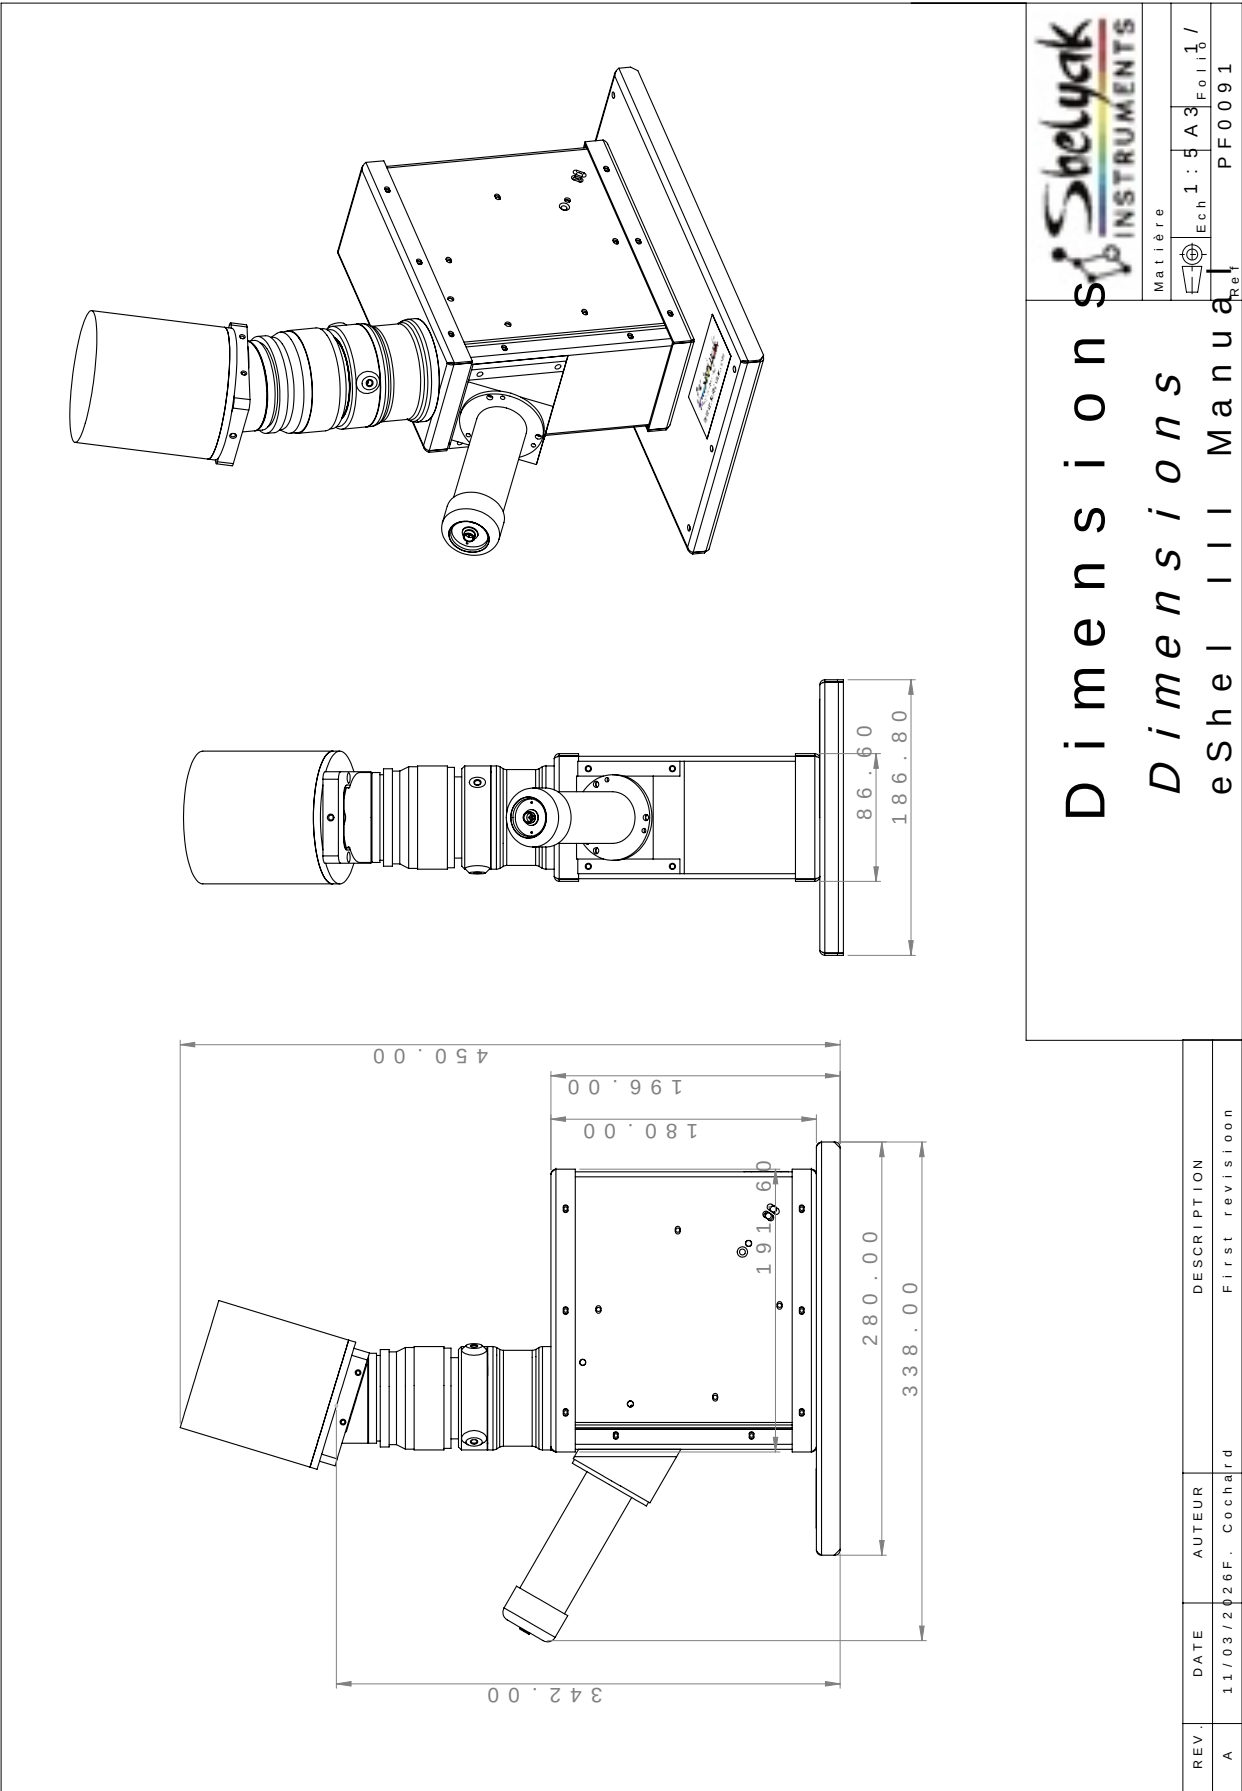
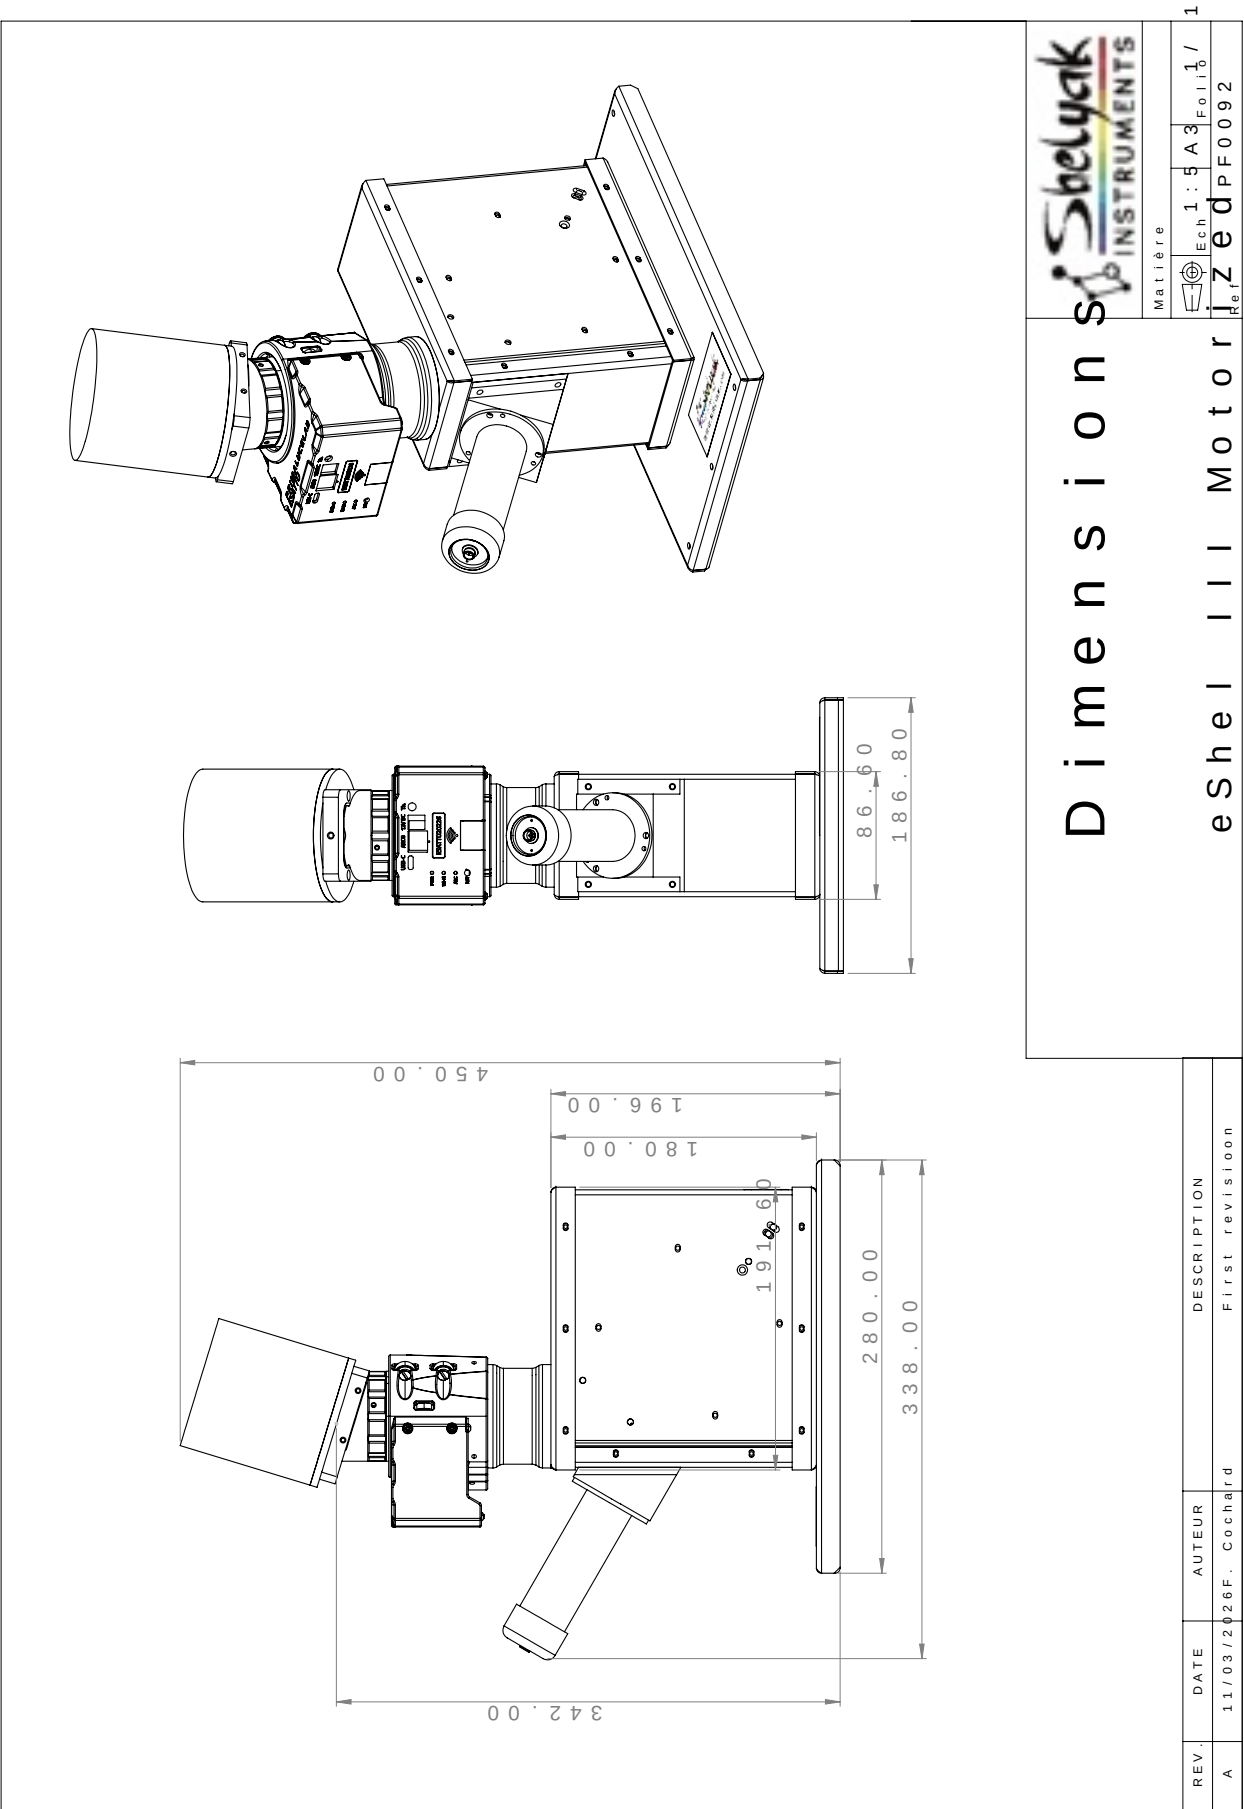

Figure 5.1: Dimensions of the eShel III - manual version
Figure 5.2: Dimensions of the eShel III - motorized version
- Dimensions: refer to the drawings fig. 5.1 (manual version) and fig. 5.2 for the motorized version (next pages).